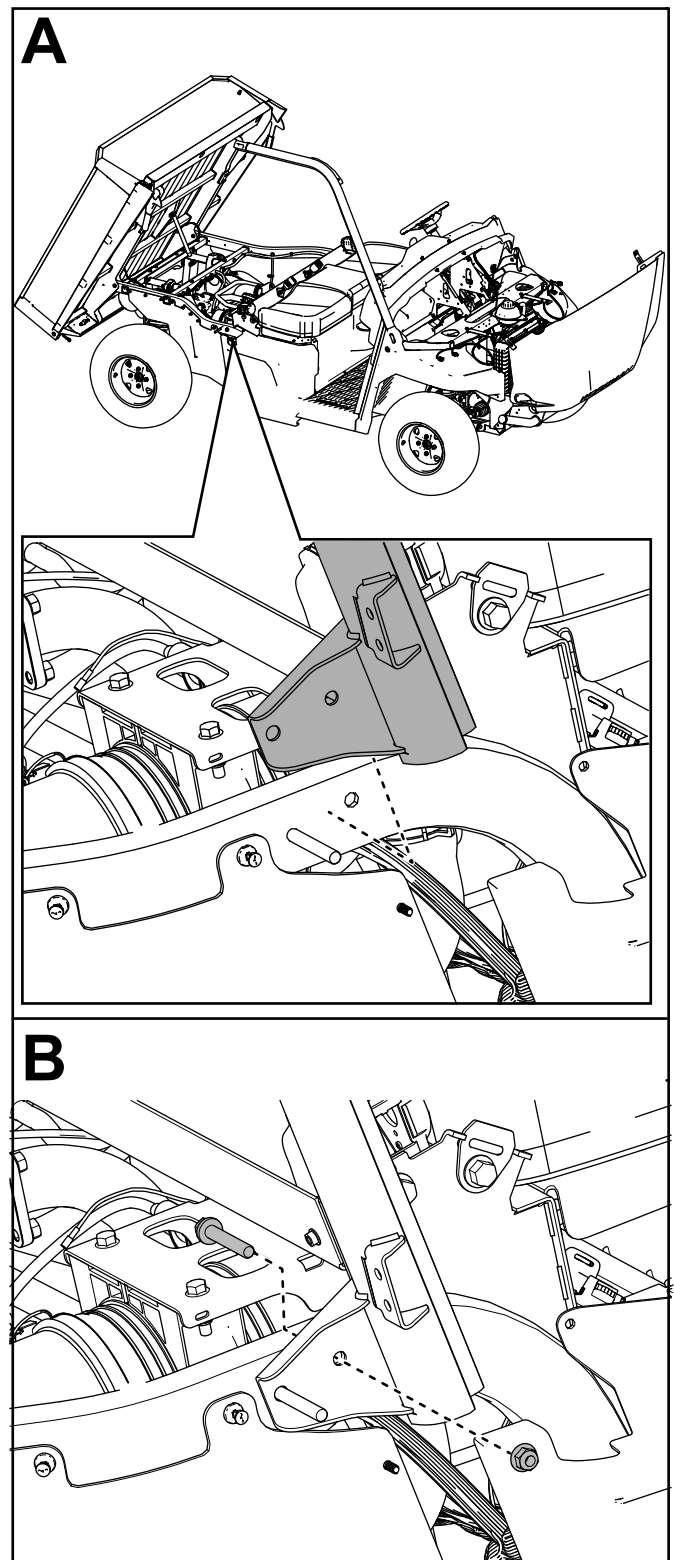

Figure 12
5. Loosely secure the right, rear roll bar assembly to the right, rear frame tube using 1 flange-head bolt (3/8 x 2-1/4 inches) and 1 locknut (3/8 inch) as shown in Figure 12.